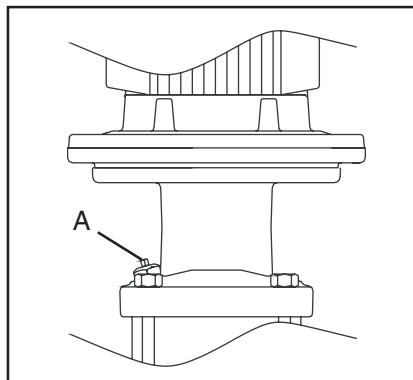

Fig. 16
3. Loosen the relief plug (A, fig. 16) 1-2 revolutions until water and air begin to flow out.